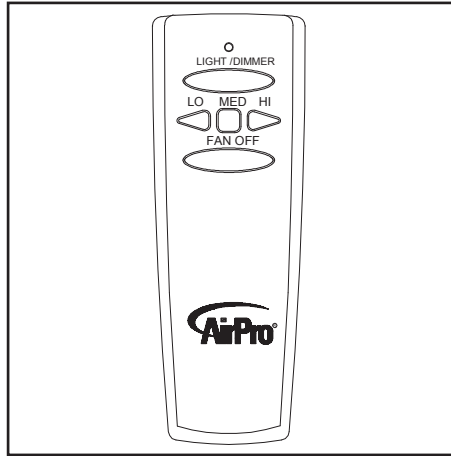

Figure 17
**Remote Control** - Your fan is equipped with a remote control to operate the speed and lights (Figure 17).